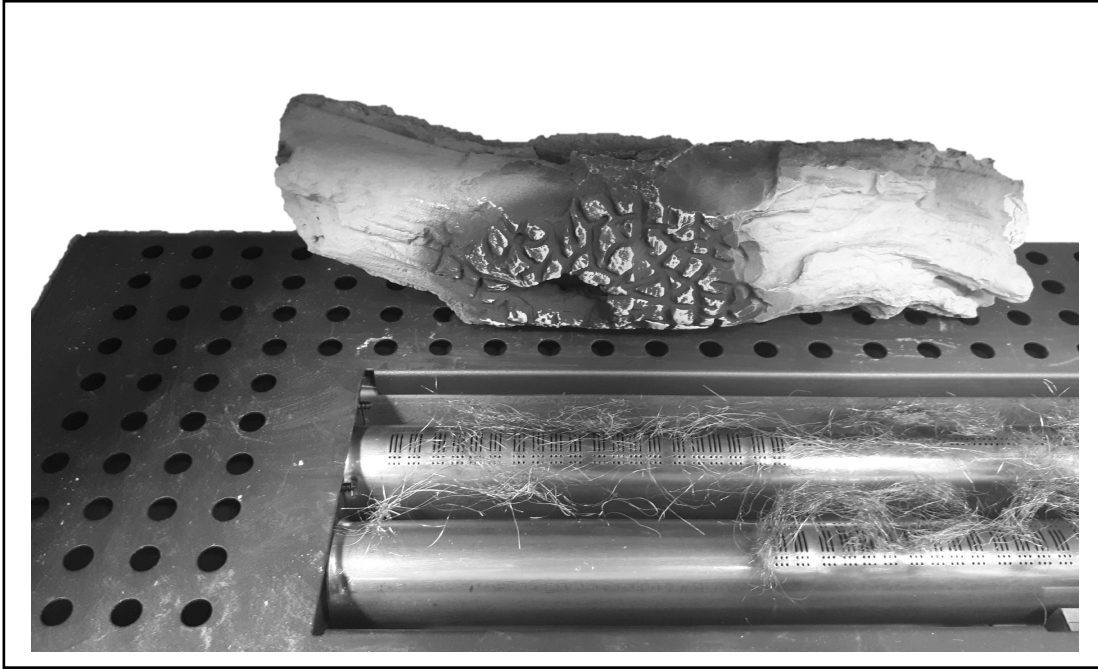

Fig. 1
1. Place Log '1' in position as shown in fig.1. Log 1 has a flat side to rest on the metal base. Locate the log with its rear touching the back wall surface. The log should rest positioned clear of the burner compartment in front as in Fig. 1.